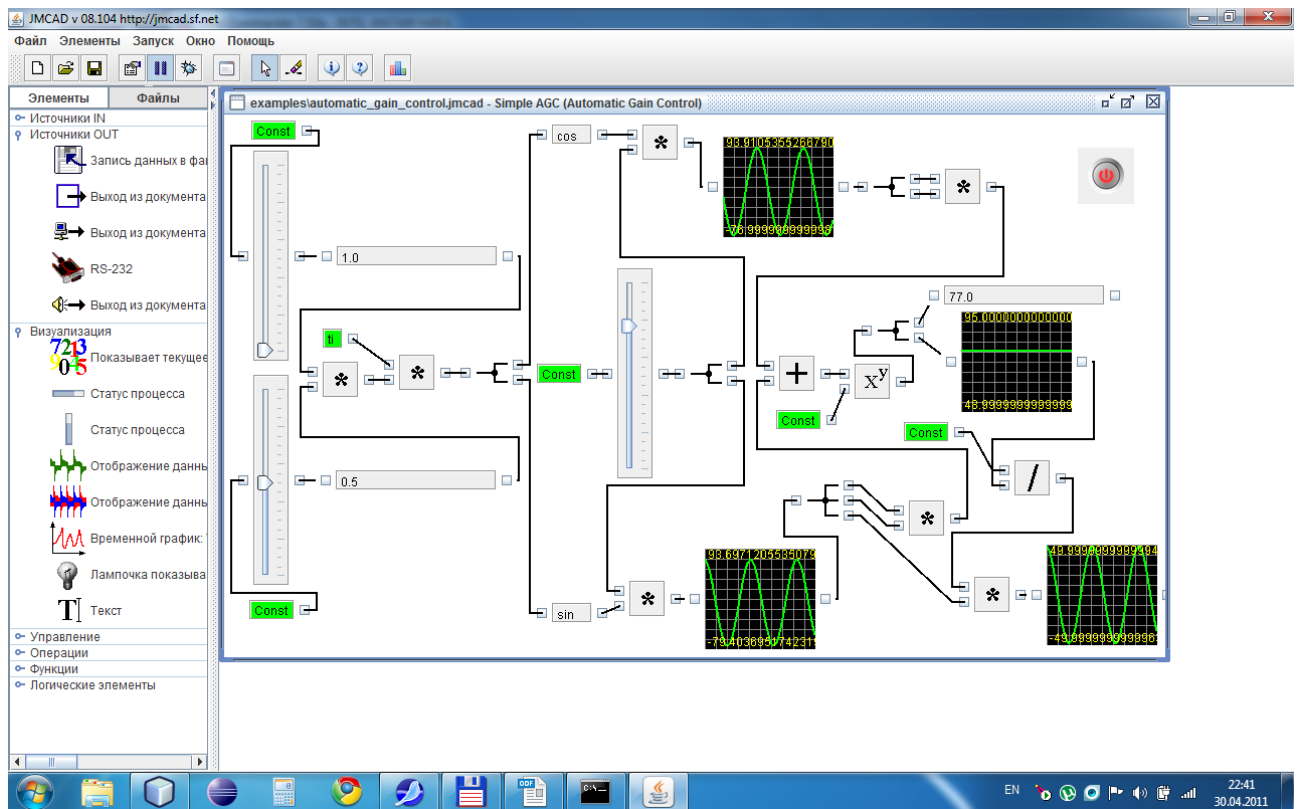
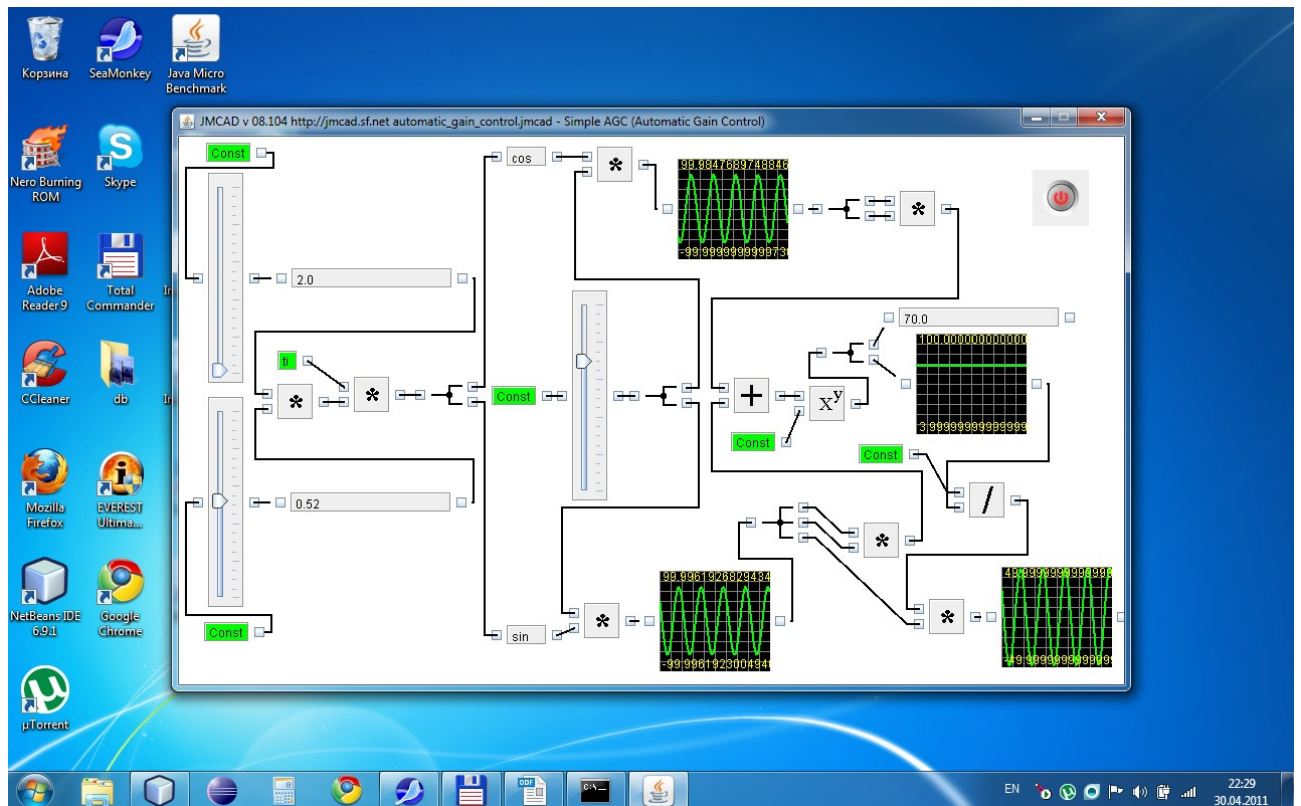

Fig. 1
Fig. 2
*JMCAD* - the main block to create and edit models (Fig. 1). You might also consider using it to run the model in operation (Fig. 2). Running the model in the mode of operation is performed through the command line using the parameter *-single*.
*JMCADRTS* - block to run the model in operation (Fig. 2). Running the model in the mode of operation is performed through the command line.
You might also consider using it to run the model in operation (Fig. 2). Running the model in the mode of operation is performed through the command line using the parameter *-single*. Command line for starting the model in the mode of operation is as follows: